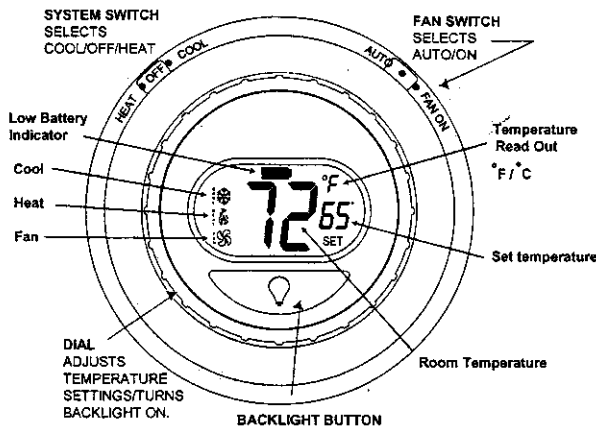

Fig 3 ES100 Thermostat (feature and operation).
- Fan switch - auto (fig. 3)
- The display provides a large readout of the actual room temperature and a smaller readout for the set point. (fig. 3)
- A flame  appears when the heat is turned on and a snowflake  appears when the cooling is on. (fig. 3)
- A fan  appears when the system is running or when the fan switch is in the on position. (fig. 3)
The thermostat can be adjusted between 41 degrees F and 90 degrees F by simply rotating the soft dial clockwise to raise the set point or counterclockwise to lower the set point. The selected set point appears on the right side of the display. The room temperature is the larger readout that appears in the middle of the display. (fig. 3)